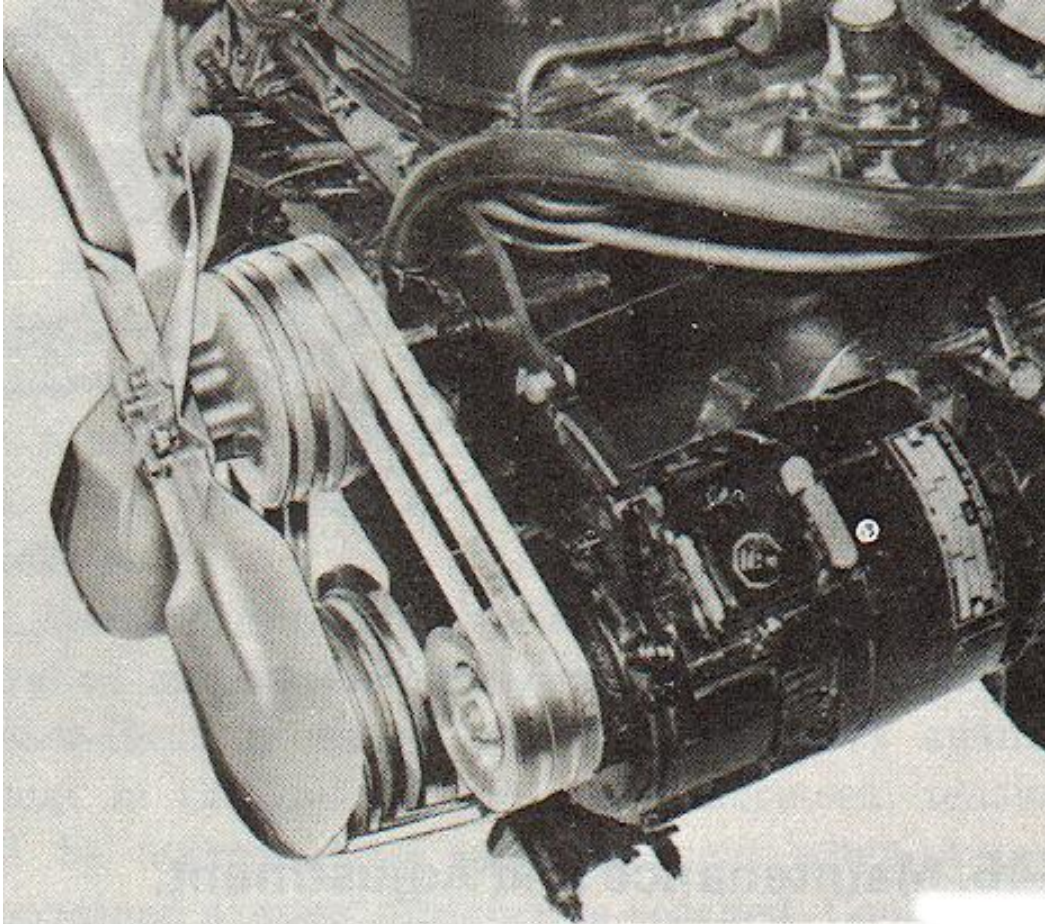

FIGURE 2-24. Fan Belts Installed
(1) Install drain plug in left side of cylinder block, and in lower right side of radiator assembly. Tighten radiator drain plug and cylinder block drain plug securely.
(2) Fill radiator with proper seasonal coolant solution to within 2-inches of filler opening.
(3) Install radiator cap. Start engine and run at idling speed.
(4) Carefully check radiator hose connections, coolant pump and thermostat housing attaching nuts and around cylinder heads for leakage.
(5) Carefully remove radiator cap and check coolant level. Fill as required to within 2-inches of filler opening.
(6) Install radiator cap and shut down engine.
j. Adjusting Drive Belt Tension. (Fig 2-24)
(1) Loosen front and rear alternator mounting bolts, and brace attaching bolt.
(2) Place a straightedge on the belt between alternator and coolant pump pulley.
(3) Adjust belt tension by moving alternator until there is a measured deflection of 1/2-inch for a new belt, 3/4-inch for a used belt at midpoint between